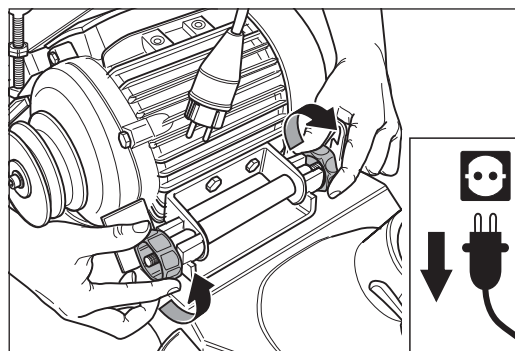

Fig. 40 Loosen the two motor nuts.
- 4 Loosen the two motor nuts at the motor bearing bracket (Fig. 40).